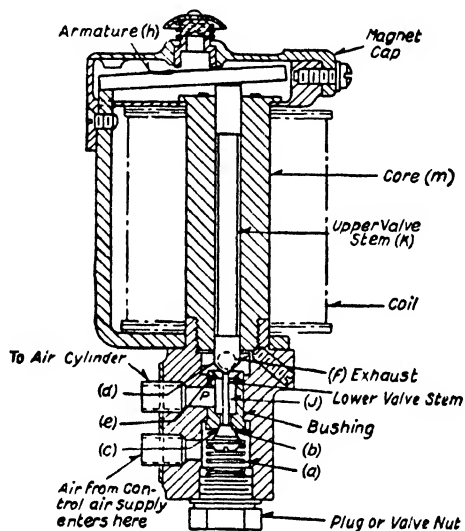

Fig. 22. Cross Section of Open-Coil Type Standard Magnet Valve
In Fig. 22 is shown the diagrammatic cross-sectional view of a standard magnet valve with the operating parts in the position
**Inlet Valve Leakage.** Occasionally a valve will blow (i.e. give out a hissing sound) due to leakage of air; if this occurs when the magnet coil is de-energized and the air blows out of the magnet exhaust port (*f*), Fig. 22, it is an indication that the lower (inlet) valve is not seating properly. This trouble is caused generally by the presence of a little dirt on the valve seat and in most cases can be cured by pressing down the pin in the top of the magnet valve and releasing it quickly several times. If the blowing persists, shut off the air from the apparatus and unscrew the plug at the bottom of the magnet valve. Carefully lower the plug straight down and the spring and lower valve will drop down with it. Wipe the valve perfectly clean and with a small stick and piece of cloth also clean the valve seat.
When replacing the lower valve, spring, plug or valve nut, first remove the cap over the armature so that in case the valve stem does not properly enter the hole in the stem (*k*), Fig. 22, it is free to be lifted by the advancing stem instead of being damaged. If the inlet or exhaust valve is not tight, the difficulty can sometimes be overcome by inserting a small screw driver in the top slot and spinning it a few times on the seat.
**Exhaust Valve Leakage.** In case a standard valve blows through the exhaust port when the coil is energized it is a sign that the exhaust valve (*d*), Fig. 22, is not seating properly on the seat (*e*). This may be due to any one of the following causes which are mentioned in the order of their usual liability of occurrence. (Refer to Fig. 22.)
- (1) Dirt on the valve seat (*e*).
- (2) Weak battery or low voltage applied to coil.
- (3) Dirt under the magnet armature (*h*).
- (4) Valve stem (*k*) worn down so that armature strikes the core (*m*) before the valve seats.
Another possible cause of a blowing exhaust valve, i.e. worn down stem (*k*), Fig. 22, is very unlikely to occur until after the equipment has been in service for several years. If this stem is found to be too short it can be slightly stretched by peening the shank.